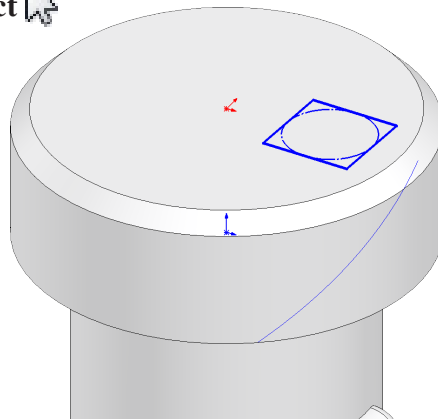

Fig. 69
Step 4. Sketch **polygon** to right of **Origin** , **Fig. 69**.